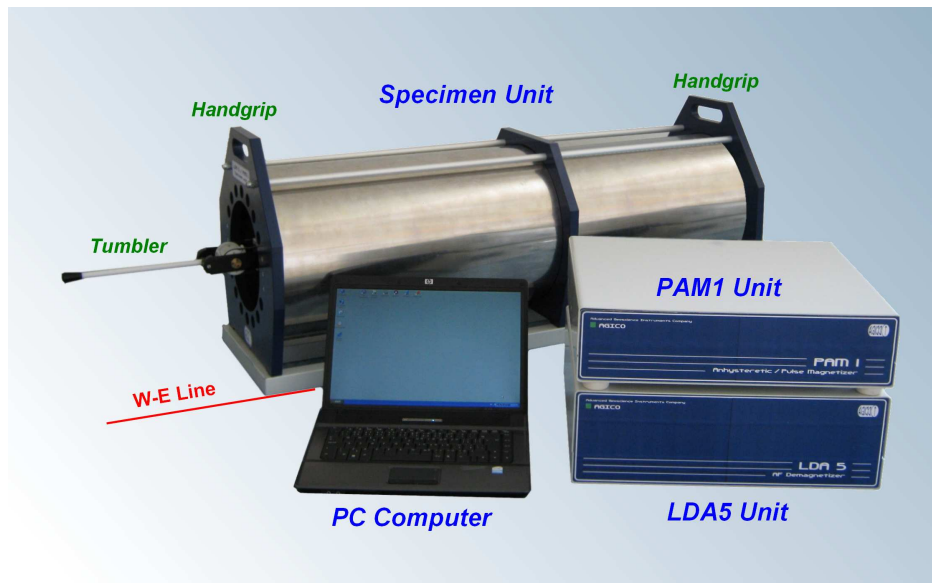

Figure 3: A typical set-up of *LDA5/PAM1* showing individual units of the instrument.
The instrument consists of the following units (Figure 3):
2. Place the individual units on a solid (preferably wooden) table. For the maximum shielding effect, the **Specimen Unit** should be oriented, using a compass, with its cylinder axis perpendicular to the local magnetic meridian, i.e. its axis should be oriented W-E. It is recommended to draw a W-E line on the table before installing the **Specimen Unit** because a close contact of the compass with the mu-metal shield could cause a compass deviation and thus an imprecise orientation. **LDA5 Unit**, and optionally **PAM1 Unit**, are recommended to be placed on the table next to the **Specimen Unit** (see Figure 3 for an example set-up).